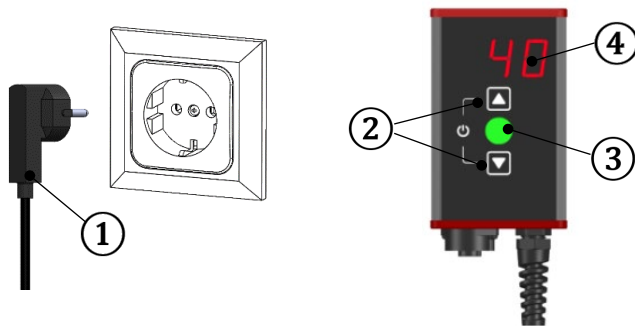

Figure 6.3.1
6.3 Commissioning (Figure 6.3.1)